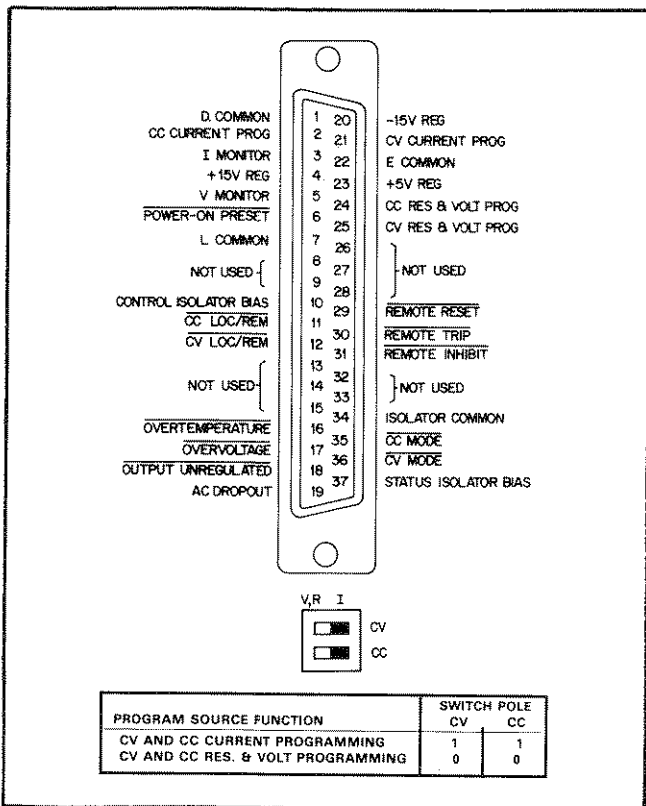

Figure A-2. 002 Option Rear Panel Connector J3 and Switches A1 and A2.
Next switch A1 and A2 also on the rear panel, to the correct program source function, see Figure A-2. All connections are made at the 37-pin rear panel connector J3, and can be wired directly into the mating connector supplied for this purpose.
A-24 Check switches A1 and A2 on the rear panel, they must be in their correct positions for CV and CC resistance/voltage programming (see figure A-2). A resistance variable from 0 to 4 K ohms can be used to program the output voltage or current from 0 to full scale. To program the output voltage, connect the variable resistance between J3-25 (CV
Check switches A1 and A2 on the rear panel, they must be in the correct positions for CV and CC resistance/voltage programming (see figure A-2). A voltage source variable from 0 to 5 volts, can be used to program the output voltage or current from 0 to full scale. The load on the programming source is less than 1 mA. To program voltage, the voltage source should be connected from J3-25 (CV RES & VOLT PROG) to J3-22 (E COM). To program current, the voltage source should be connected from J3-24 (CC RES & VOLT PROG) to J3-22 (E. COMMON). If the programming lines become open circuited (user's system becomes disconnected from J3) during voltage programming, the Programming Protection circuit will reduce the power supply output to zero.
**A-26 Current Programming (Figure A-7).** Check switches A1 and A2 on the rear panel, they must be in the correct positions for CV and CC current programming (see Figure A-2). A current sink variable from 0 to 2mA, can be used to program the output voltage or current from 0 to full scale (see Figure A-7). The following paragraph provides a brief circuit description, refer to schematic diagram.